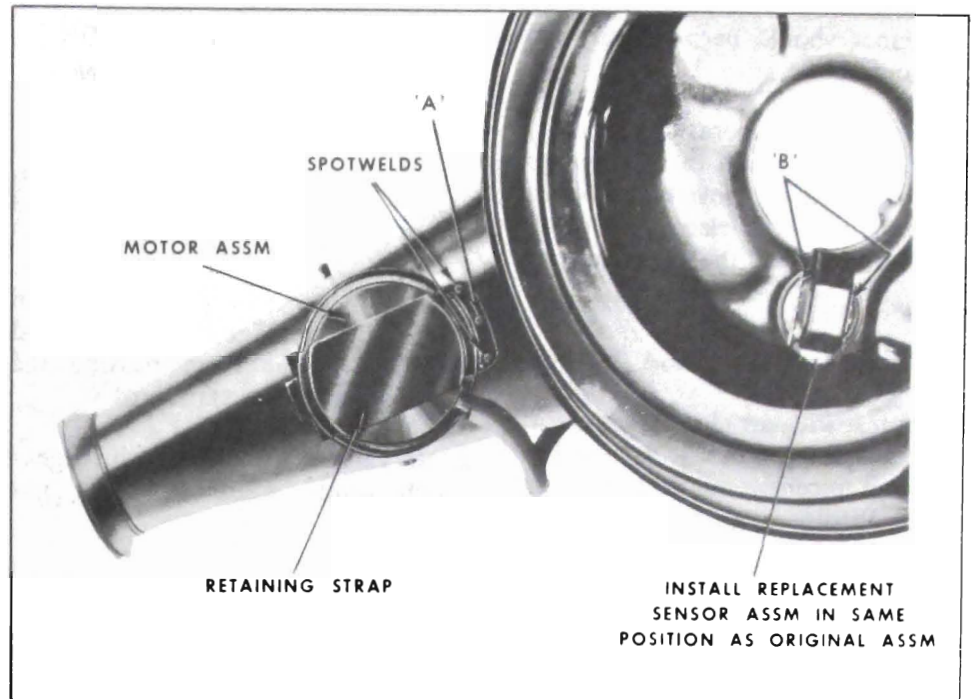

Figure 67-5 - Replacing Vacuum Motor Assembly
3. Remove vacuum motor retainer strap. See Figure 67-5.
5. Drill a 7/64" hole in snorkel tube at point "A" as shown in Figure 67-5.
4. Install sensor and gasket assembly in air cleaner in same position as noted in Step 3. This is to eliminate the possibility of interference with the air filter element. See Figure 67-5.
5. Install sensor retaining clip. Meanwhile supporting sensor at "B" around the outside rim to prevent damage to the temperature sensing spring. See Figure 67-5.